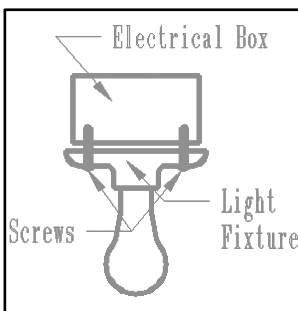

Figure 1
3. Using a screw driver, loosen the two (2) screws that secure the light fixture to the electrical box so that approximately a ¼ inch gap is visible between the light fixture and the electrical box (see figure 1). If screws are too short, replace with longer screws of the same type.